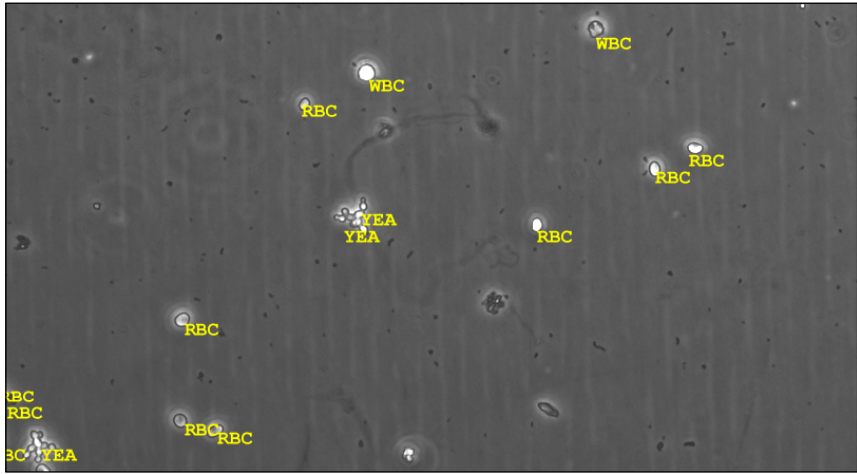

Figure 19. Automatically evaluated and tagged view field image of a Normal image
- Viewfield images that are not crowded with particles are, regardless of whether they are negative or pathological, considered **Normal** (see Figure 19)—they have **No** in their **For review** column in the **Image List**. The majority of viewfield images are of this type.